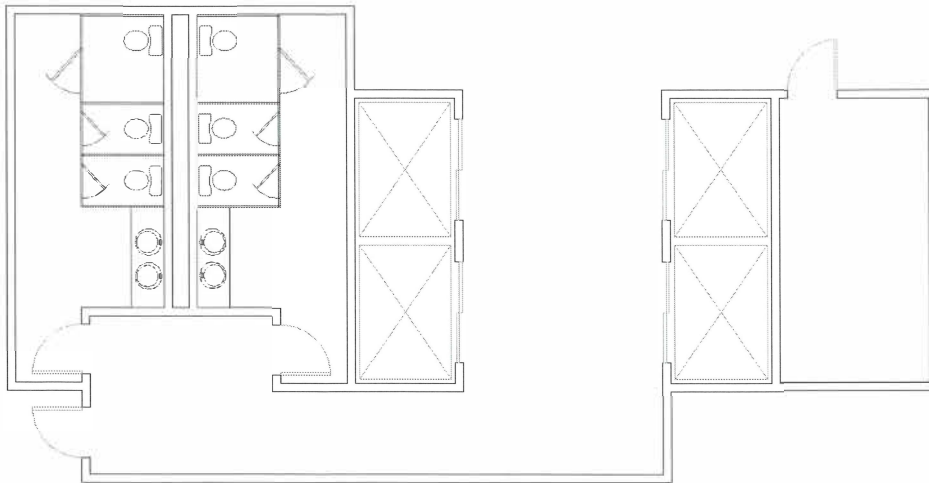

Figure 12–19
3. Insert the door blocks, as shown in Figure 12–19. Insert **Restrooms-AM.dwg** into the restroom areas as well.